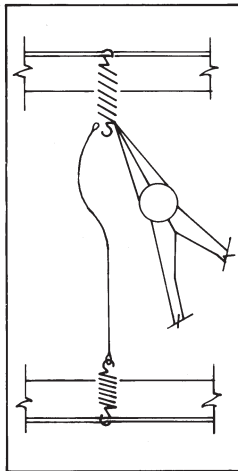

Figure 8
(Refer to Figure 8)
- Loop one end of the new wire over the bottom spring then extend the top spring and loop the end of the wire over the spring (see Figure 8 & 9). Pliers may aid this operation.